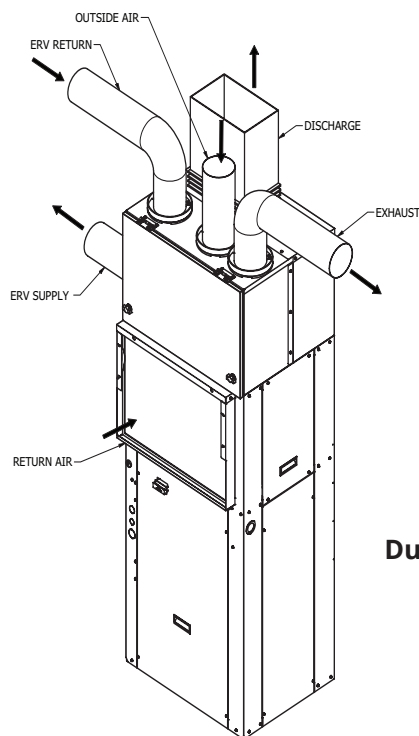

FIGURE 3
9. New “Flush Style” Architectural Grille – This new grille (Figure 3) is an attractive extruded aluminum architectural grille that attaches to the outside face of the wall sleeve. The blades of this unique grille recess into the wall sleeve for a neat, “flush” appearance. Grilles install from the inside of the wall sleeve. Do not install the **Fresh-Pak** unit into the sleeve before installing the grille.